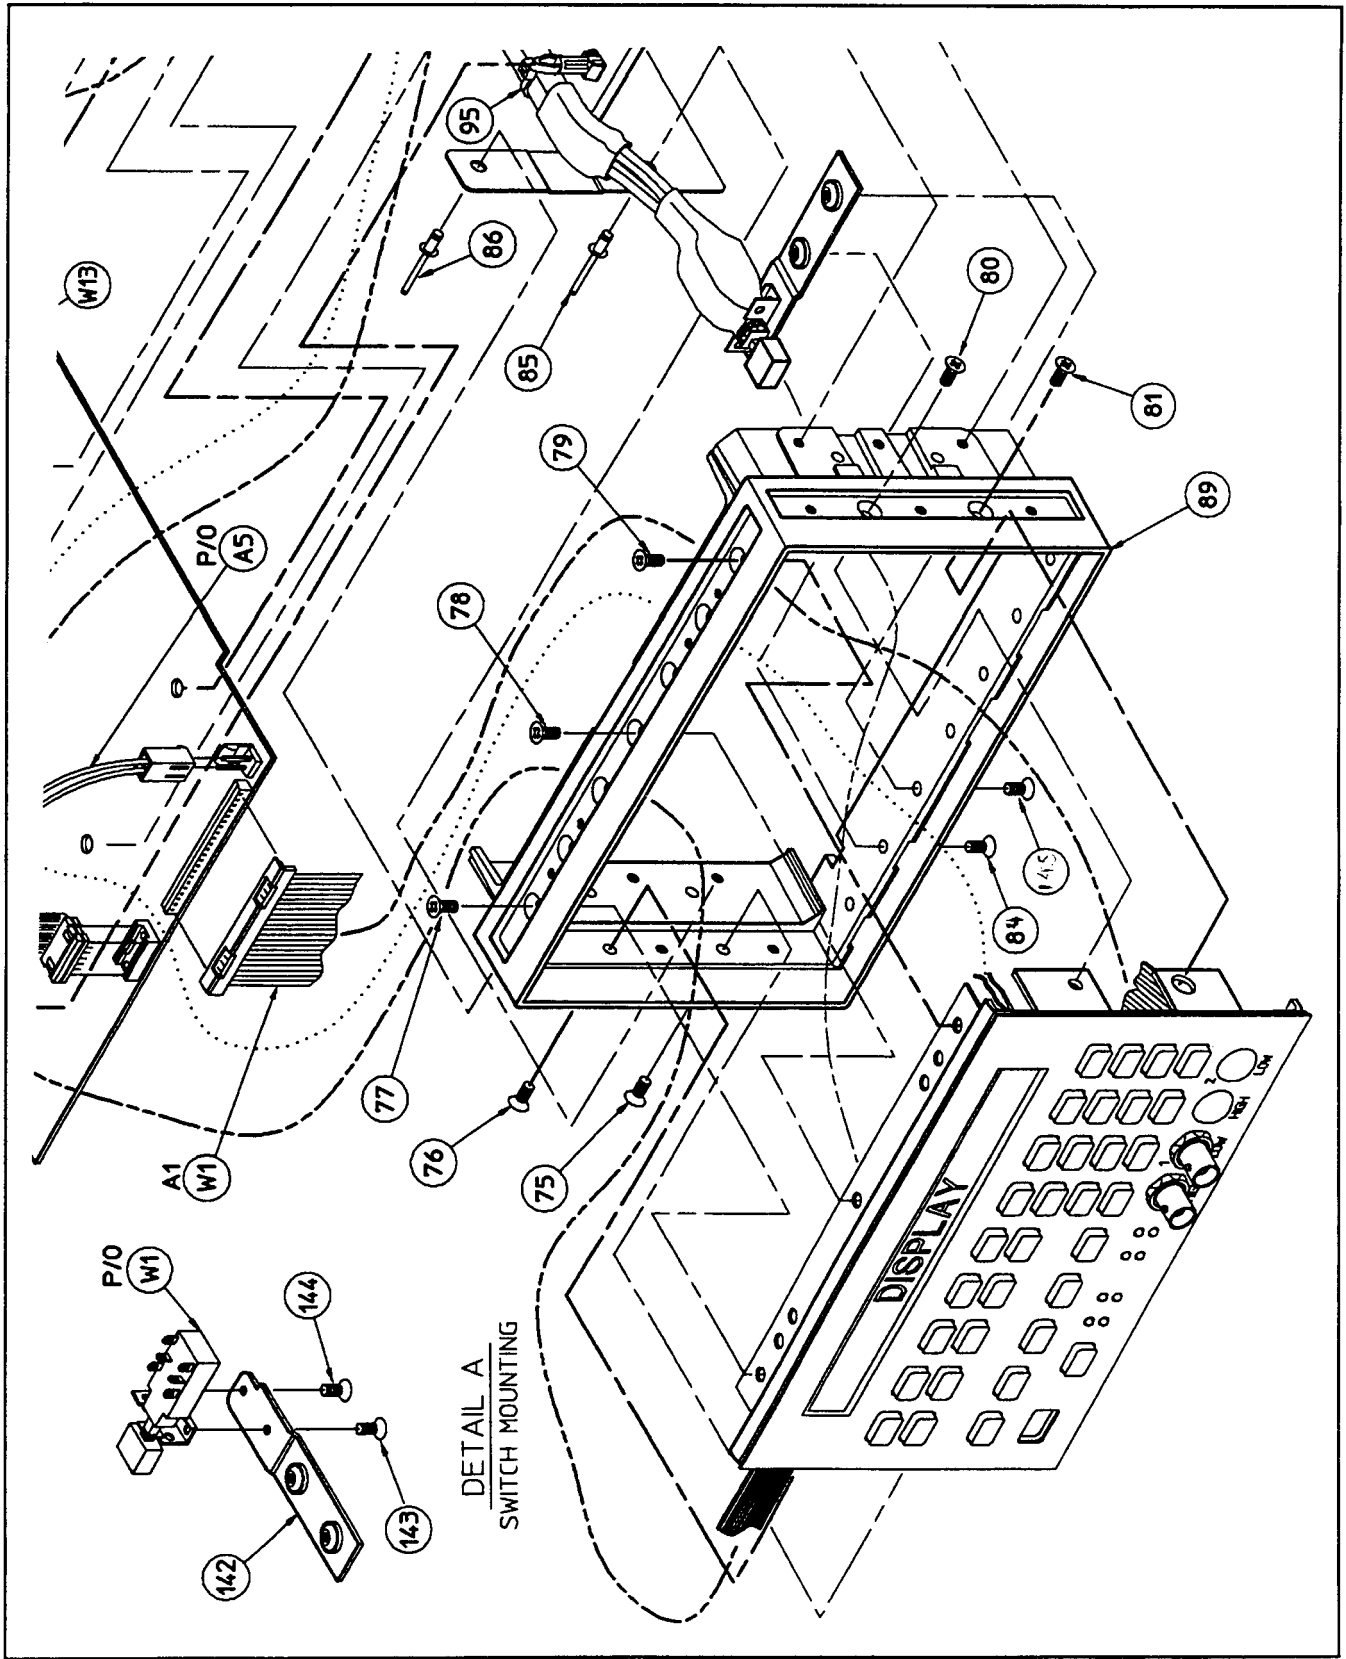

Figure 7-6. Front-Panel Assembly, (2923A and above)
Refer to the figures in Section 6 of the HP 8904A Service Manual and figure 7-6 in this installation note for part identification and location.
17. Install the line switch bracket supplied in the kit (HP 08904-00022, item 142 in figure 7-6, Detail A herein) on to the line switch using the two Pozidriv screws supplied in the kit (HP 0515-2028, items 143 and 144). Tighten the screws to 0.6 N·m (5 in·lb).
18. Install the line switch bracket on to the front frame using two of the screws (items 84 and 145 in figure 7-6) securing the old front panel to the frame (item 89). Do not tighten the screws at this time.